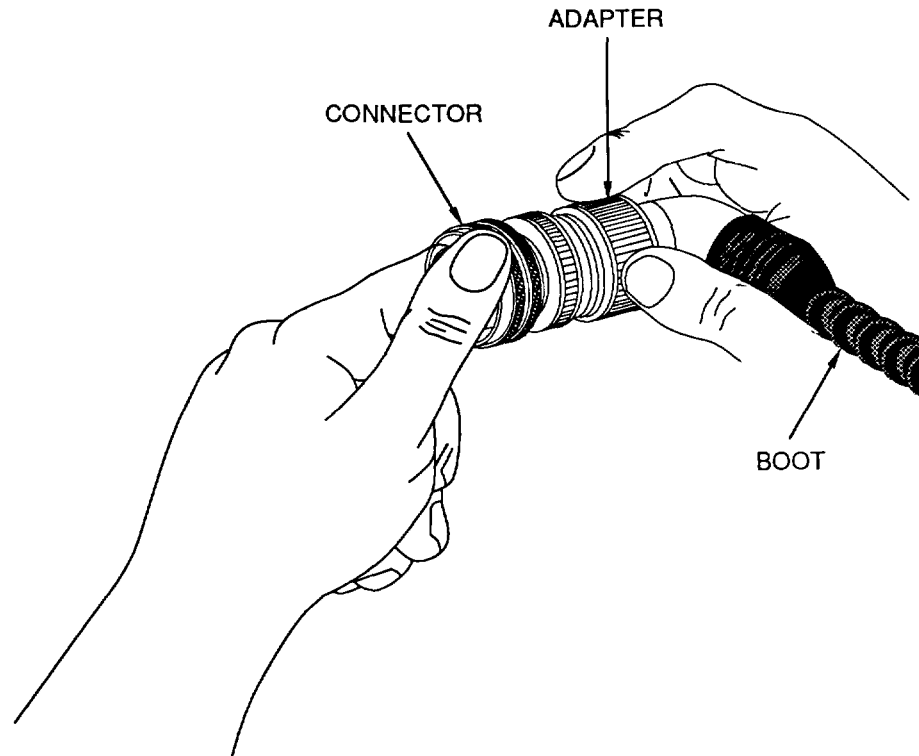

Figure 11. Coupling Installation
e. Screw coupling ring onto connector (Figure 11)